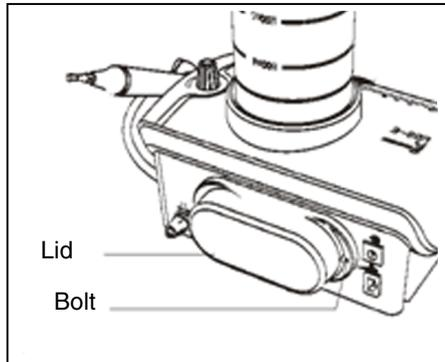

Fig. 11
- 2 Remove the bolt with screwdriver. (See Figure 11)